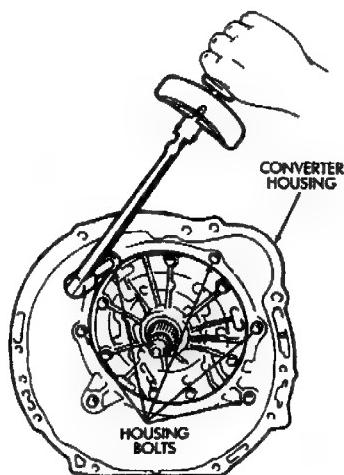

Fig. 68 Installing Converter Housing
(92) Install converter housing (Fig. 68). Tighten 12 mm diameter housing bolts to 57 N·m (42 ft-lbs) torque. Tighten 10 mm diameter housing bolts to 34 N·m (25 ft-lbs) torque.